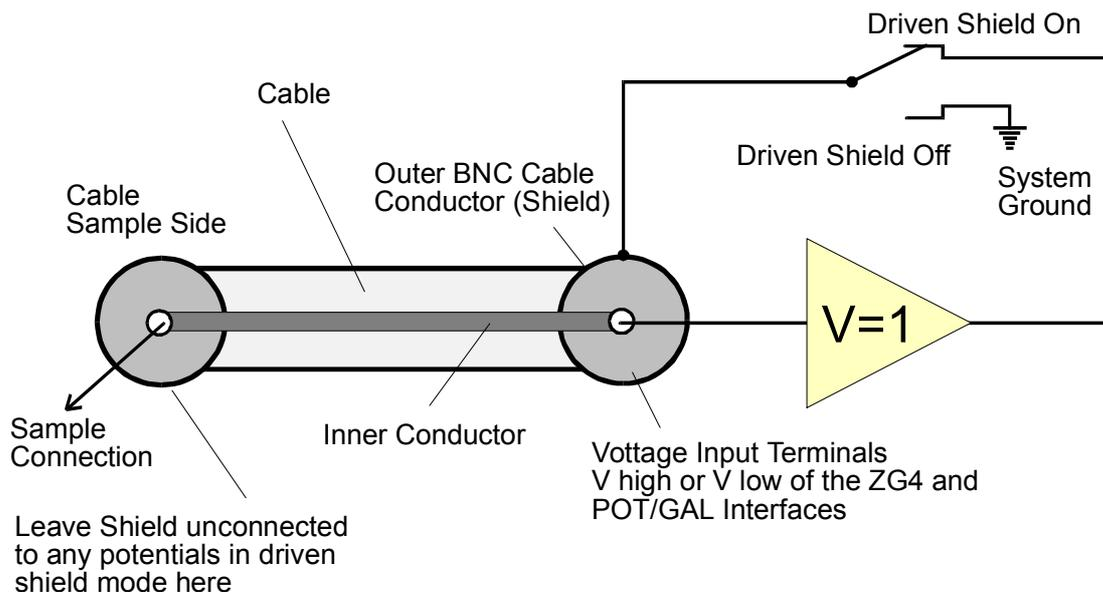

Fig. 22. Interface ZG4 **V high** or **V low** terminal outer shield BNC conductor configuration with driven shield mode enabled.
- The outer BNC conductor of the **V high** or **V low** terminals can be at potentials up to about ± 10 V with respect to system ground. Therefore, the outer shield conductor of the BNC cables should be connected to the outer conductors of the **V high** or **V low** terminals at the interface side but must be left open at the sample side as shown in fig. 22.